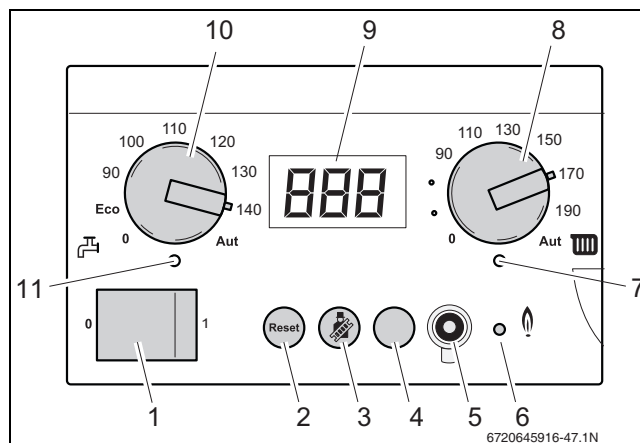

Fig. 74 BC10 basic controller
- ▶ Set the upper space heating water temperature limit for heating mode with the “space heating water temperature” knob (→ fig. 74, [8]) (→ table 19). This limitation does not apply to DHW preparation.
- Set the DHW temperature knob (→ fig. 74, [10]) to the required temperature of the hot water in the hot water cylinder (→ table 20).
- Switch OFF the appliance by pressing the main switch of the BC10 (→ fig. 74, [1]).
- Switch off OFF appliance by pressing the main switch of the BC10 (→ fig. 74, [1]).